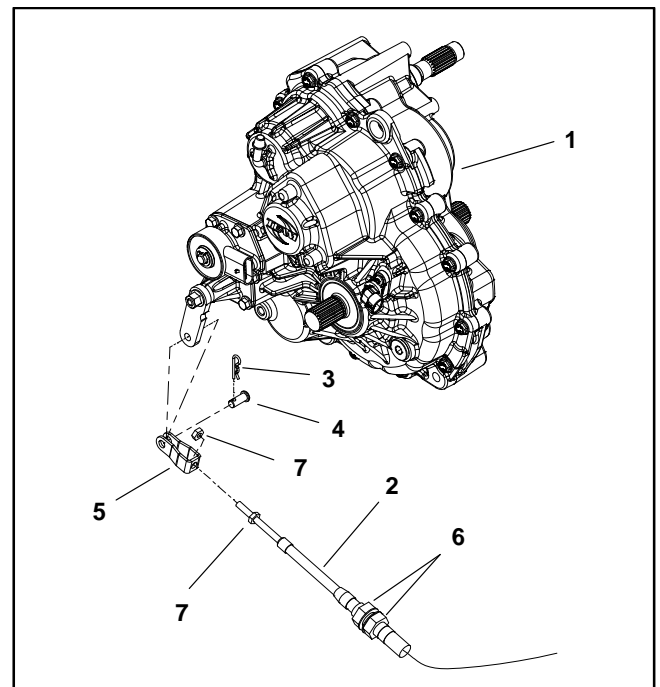

Figure 11
2. Adjust jam nuts on shift cable (item 6 in Fig. 11) to allow full range of motion between PARK and DRIVE at transmission lever. If necessary, additional cable adjustment can be made with jam nuts on cable clevis (item 7 in Fig. 11) at transmission lever.